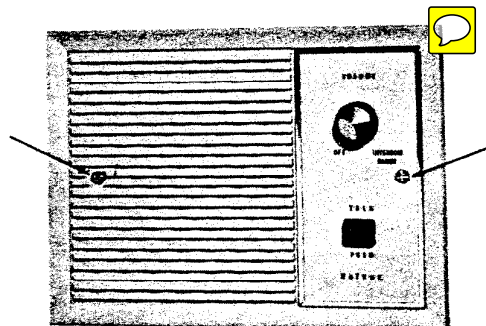

Fig. 6. Model 2027 inside remote speaker station.
1. Model 2027 4½" speaker (Fig. 6)
2. Align mounting holes in speaker assembly with holes in rough-in frame. Fasten in place with screws provided (Fig. 6).